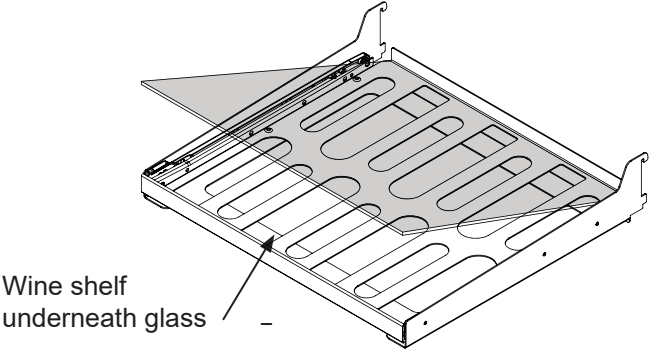

Figure 18
- (1) wine cutout and flat glass cantilever shelf. (See Figure 18).